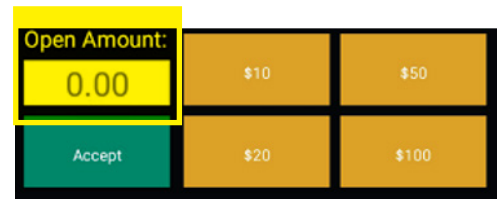

Figure 50
4. Enter the amount of starting cash and change in the till drawer (Figure 50).